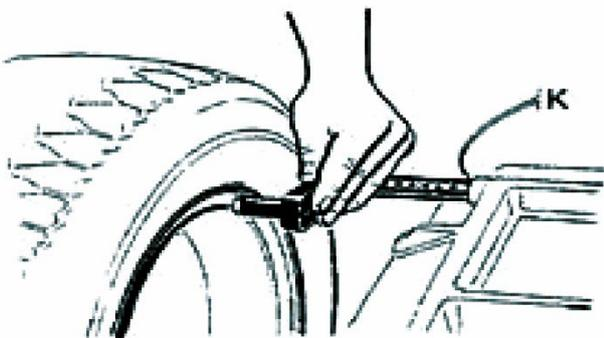

fig.1
- \* Setting the "a" value: Move the gauge to the first measuring point (e.g. as shown in Fig.1), hold the gauge (for approx. 4 seconds) in this position, after confirmation return the gauge to the 0 position. (The measured value is automatically shown in the display).